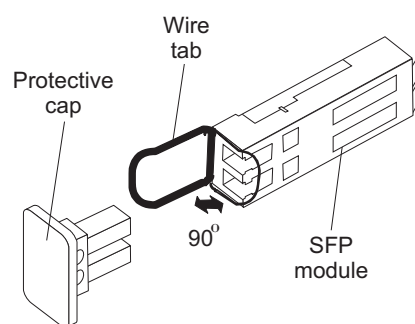

Figure 23. SFP module and protective cap
2. Remove the protective cap from the SFP module, as shown in Figure 23. Save the protective cap for future use.
2. If necessary, remove the protective cap from the SFP module, as shown in Figure 23 on page 45. Save the protective cap for future use.